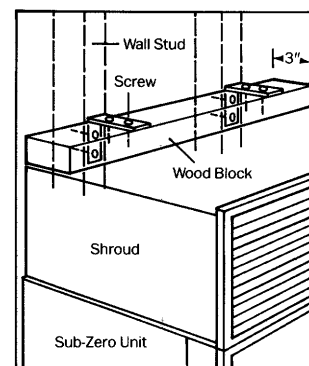

Figure 12
2. Locate the proper height to clear the unit. The space along the top of the Sub-Zero between the unit and the bottom of the wood block must not be greater than 1/4 inch. See Figure 12.
3. Position the wood block over the unit and secure it using the screws and "L" brackets provided. Make sure screws extend a minimum of 7/8 of an inch into each of the two wall studs. The wood block must extend a minimum of three inches over the unit. See Figure 12.